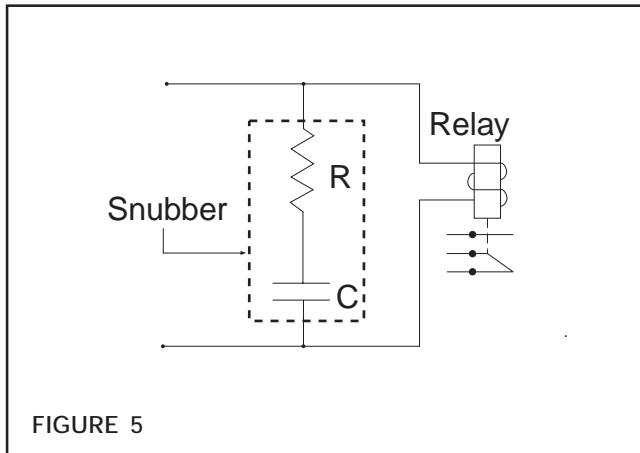

FIGURE 5
- PLACE RESISTOR-CAPACITOR NETWORK SNUBBERS ACROSS MACHINE START AND STOP RELAY COILS AND OTHER ASSOCIATED SOLENOIDS (See Figure 5) TO STOP INTERFERENCE PROBLEMS AT THE SOURCE.